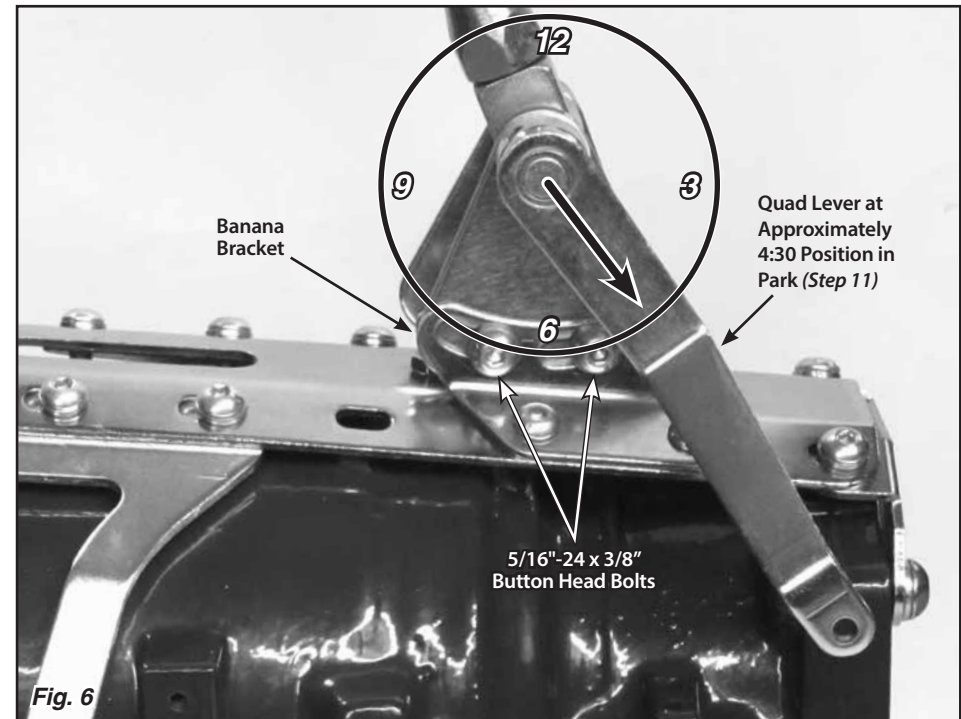

Fig. 6
Step 10: Make sure the two 5/16"-24 x 3/8" button head bolts that attach the left side banana bracket to the shifter assembly (in the curved, slotted holes) are tight. Before tightening the shifter assembly down to the main plate, move the shifter lever through all the gear positions. Make sure that the shifter lever and knob will not come in contact with the dash or the seat. The shifter assembly can be tilted forward or backward if needed by loosening the 5/16"-24 x 3/8" button head bolts in the curved, slotted holes in the left side banana bracket. **Fig. 6**
Step 11: Put the shifter lever into the Park position and check the position of the quad lever. It will need to be pointing to about the 4:30 position. If it is not, loosen the set screw in the top of the quad lever with a 1/8" Allen wrench and slide the quad lever off of the shaft. Reposition it on the shaft at approximately the 4:30 position, and retighten the set screw. **Fig. 6**
Double check to make sure that the bolts connecting the **left** side banana bracket to the shifter assembly are tight. **Fig. 6**